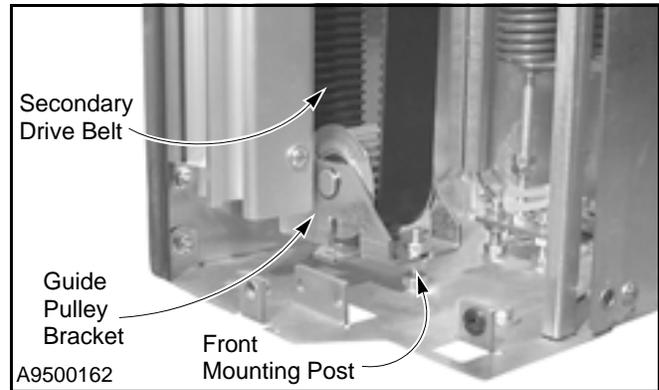

Figure 47
5. Release the tension from the secondary drive belt by removing the guide pulley bracket from the mounting posts. The pulley bracket is held in place by a pair of nuts threaded onto the mounting posts. (See Figure 47.)